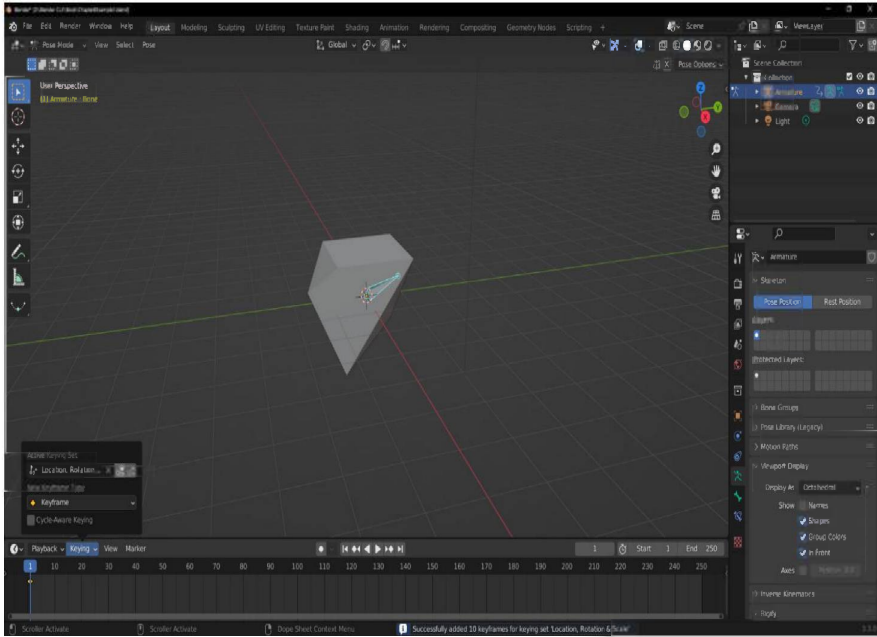

Figure 8.12: Inserting a Keyframe recording the Armature bone's pose
24. In the Timeline Viewport menu, under Keying, press the icon appearing as a key with a plus sign inside a circle again, to insert a new Keyframe for the Active Keying Set as shown in *Figure 8.12*: